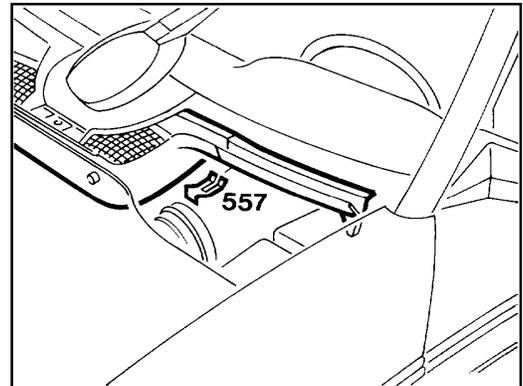

Figure 3
Clips (557).....remove, install (figure 3).